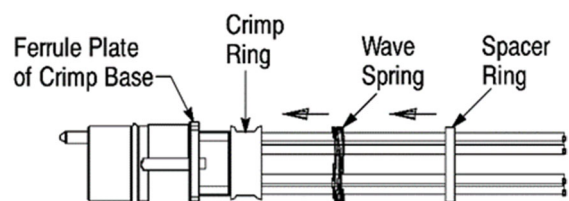

Figure 13
1. Slide the wave spring over the cables and the crimp ring (there will be some resistance) until it is against the ferrule plate of the crimp base. See Figure 13.
2. Slide the spacer ring over the cables and the crimp ring until it is against the wave spring. See Figure 13.